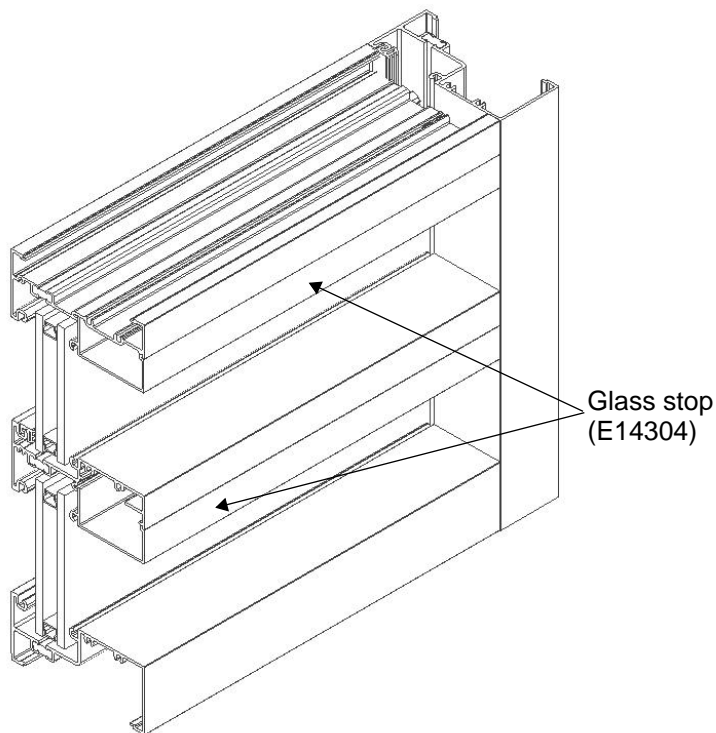

Figure 13: Install the glass stop into the horizontal after the glass has set.
- Install the glass stop into the horizontal after the glass has set, as shown in Figure 13.